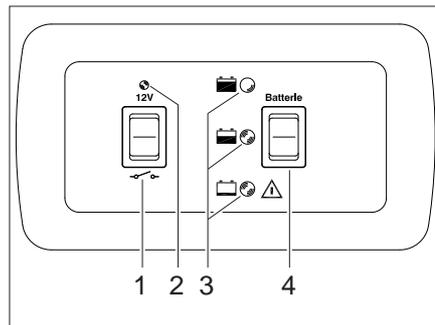

Fig. 96 Panel LT 109-5
The 12 V main switch (Fig. 96,1) switches the 12 V power supply of the living area on and off.
*Switching on:* ■ Press the rocker switch (Fig. 96,1) upwards: The 12 V living area power supply is switched on. The 12 V indicator lamp (Fig. 96,2) lights up.
*Switching off:* ■ Press the rocker switch (Fig. 96,1) downwards: The 12 V living area power supply is switched off. The 12 V indicator lamp (Fig. 96,2) goes off.
Use the "Battery" rocker switch (Fig. 96,4) to have the charging condition of the living area battery indicated.
*Displays:* ■ Press the "Battery" rocker switch (Fig. 96,4): The charging condition of the living area battery is displayed.
After the rocker switch has been pressed, the red, yellow or green indicator lamp (Fig. 96,3) lights up: